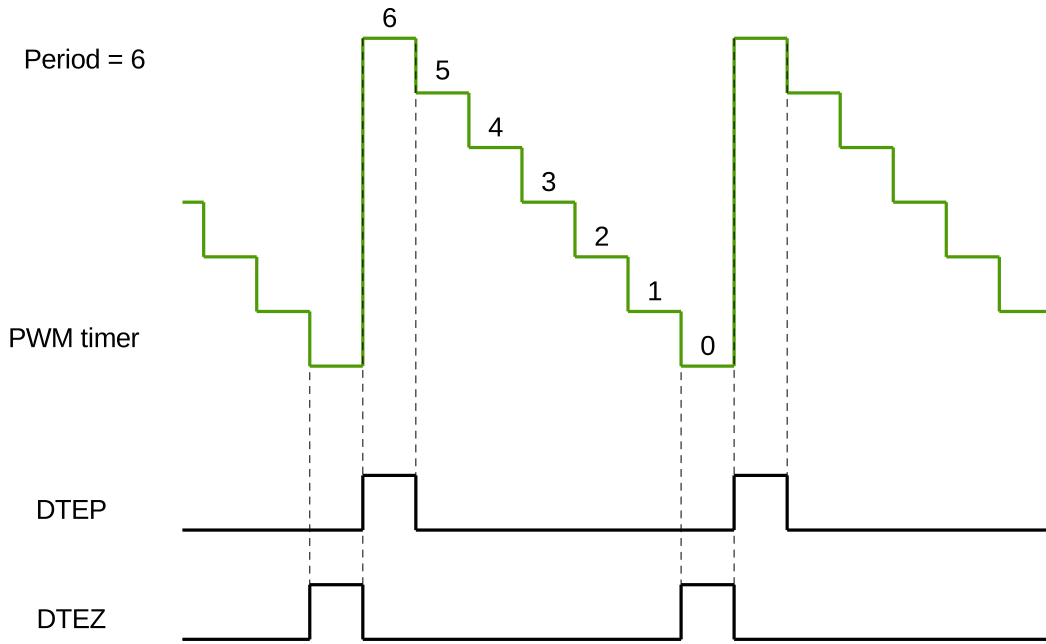

Figure 35-13. DTEP and DTEZ Generation in Count-Down Mode
2. DTEP and DTEZ do not happen simultaneously. When the PWM timer is in count-down mode, DTEZ will always happen one cycle earlier than DTEP, as demonstrated in Figure 35-13, so their action on PWM signals will not interrupt each other. When the PWM timer is in count-up-down mode, DTEZ will not occur.